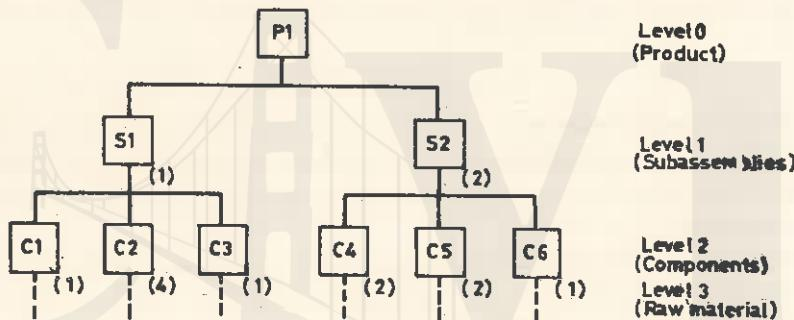

Fig 24.10. Product structure for product P_1
- Fig 24.10 shows the structure of an assembled product. It shows, subassembly S_1 is the *Parent* of components C_1 , C_2 and C_3 . Product P_1 is the parent of sub assemblies S_1 and S_2 and so on.
The product structure must also specify how many of each item are included in its parent. This is accomplished in Fig. 24.10 by the number in parentheses to the right and below each block. For example, subassembly S_1 contains four of components C_2 and one each of components C_1 and C_3 .